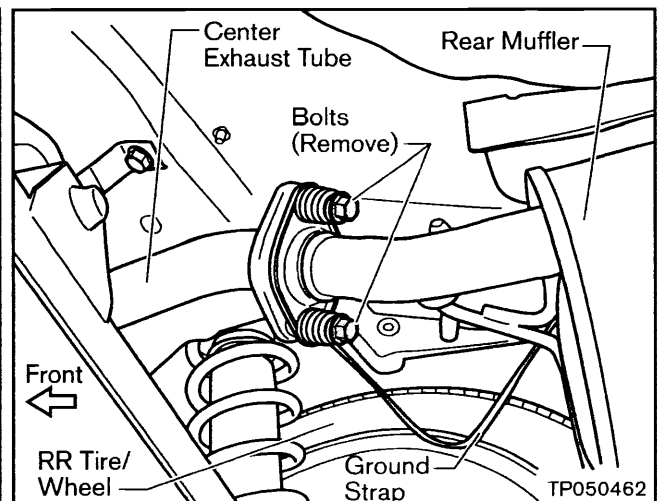

Figure 7b
- d. Remove two Bolts that secure the Center Exhaust Tube to the rear Muffler (see Figure 7b).